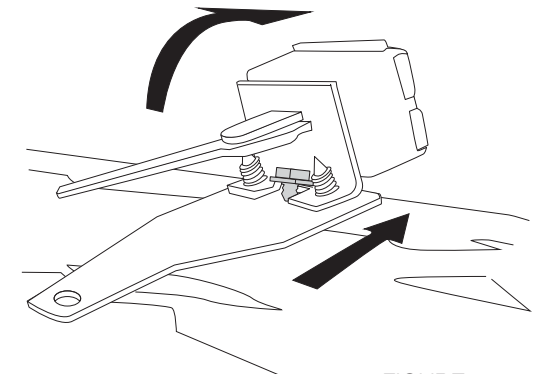

FIGURE 7
- 2) It will be necessary to position, then rotate the blower switch assembly and slide over the screw that will be under the switch. This screw will need to be tightened with a wrench (see figure 7 and 8).